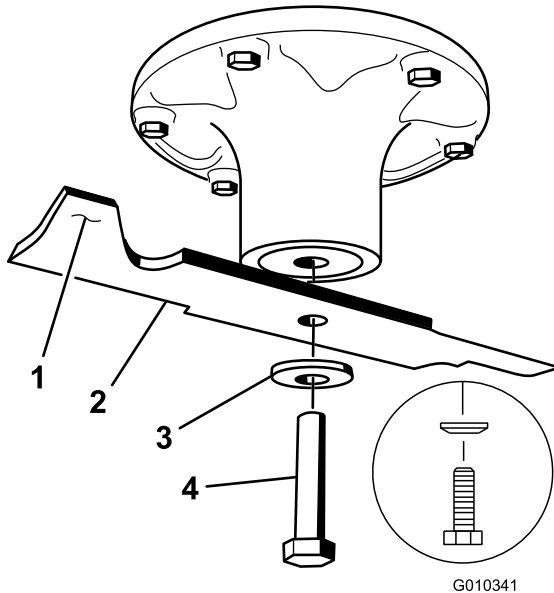

Figure 68
2. Remove the blade bolt, curved washer, and blade from the spindle shaft (Figure 68).
1. Install the blade onto the spindle shaft (Figure 68).
2. Install the curved washer (cupped side toward the blade) and the blade bolt (Figure 68).